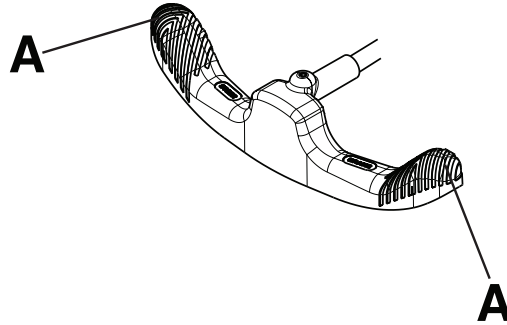

Figure 4 – Operating the brake/steer pedal
Note - Do not push down on the center of the brake/steer pedal. Always push down on the outer side (A) of the brake/steer pedal (Figure 4).